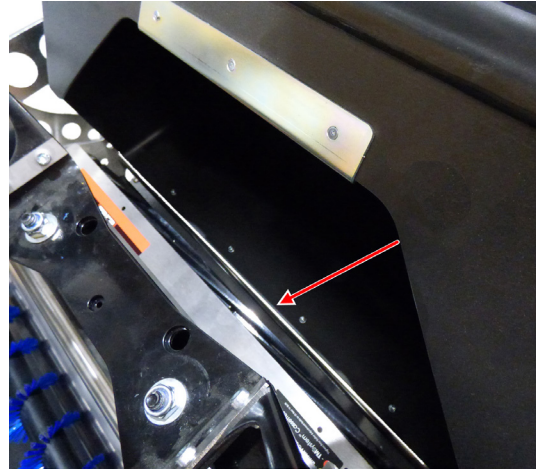

Figure 13
- Gap between grass box and mower should be small. See Figure 13.